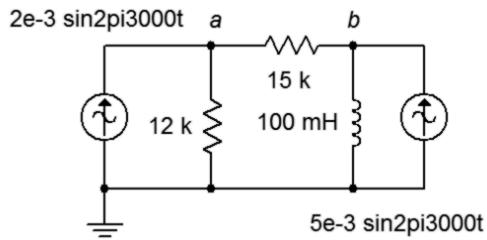

Figure 5.7
13. In the circuit of Figure 5.7, use Superposition to find v_{ab} .
14. In the circuit of Figure 5.7, use Superposition to find the current through the 15 kΩ resistor.